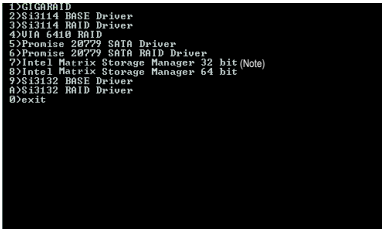

Fig. 2
Step 2: When the controller menu (Fig.2) appears, remove the startup disk and insert the blank formatted disk. Select the controller driver by pressing the corresponding letter from the menu. Your system will then automatically zip and transfer this driver file to the floppy disk. Press 0 to exit when finished.
Use an alternative system and insert the GIGABYTE motherboard drive CD-ROM. From the CD-ROM drive (example: D:\) double click the **MENU.exe** file in the **BootDrv** folder. A command prompt window will open similar to that in Fig. 2.